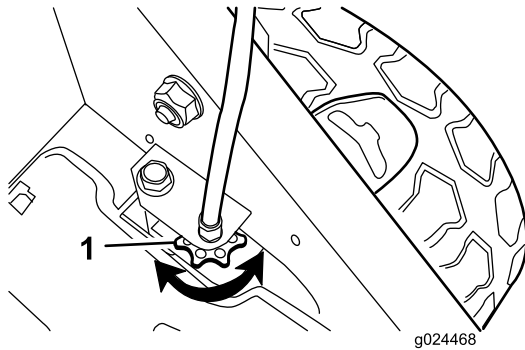

Figure 26
- If the wheels do not spin when you engage the self-propel-drive bar, the traction belt is too loose. Rotate the wheel-drive-control knob (Figure 26) clockwise 1 turn and repeat steps 4 through 6.
- If the wheels spin before you fully engage the self-propel-drive bar, the traction belt is too tight. Rotate the wheel-drive-control knob (Figure 26) counterclockwise 1 turn and repeat steps 4 through 6.